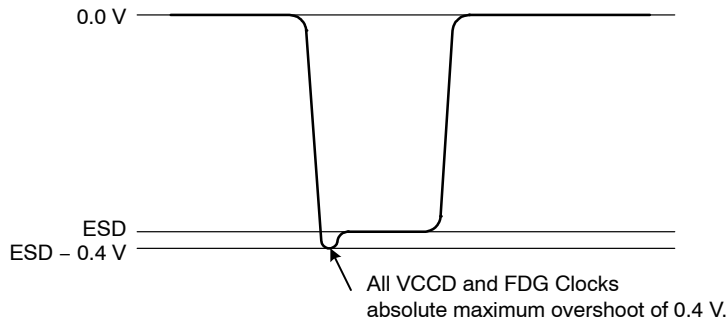

Figure 13. VCCD Clock Overshoots
- The VCCD clock waveform must not have a negative overshoot more than 0.4 V below the ESD voltage. See Figure 13.